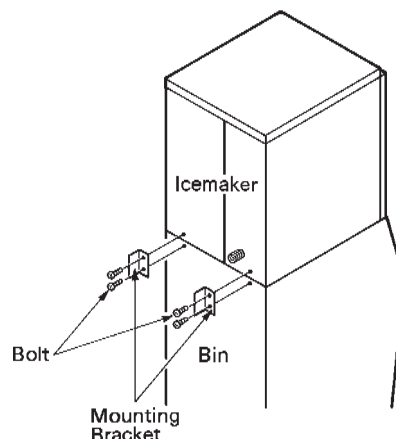

Fig. 2
- 4) Secure the icemaker to the Storage Bin, by using the two mounting brackets and the four bolts provided. See Fig. 2.